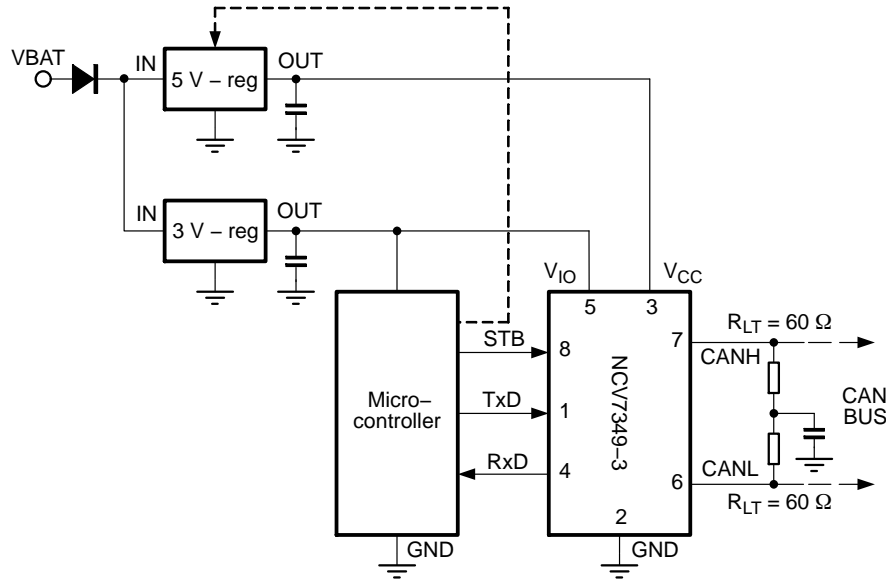

Figure 3. Application Diagram, NCV7349-3
**NCV7349-3:** Pin 5 is  $V_{IO}$  pin, which is supply pin for transceiver digital inputs/output (supplying pins TxD, RxD, STB). The  $V_{IO}$  pin should be connected to microcontroller supply pin. By using  $V_{IO}$  supply pin shared with microcontroller the I/O levels between microcontroller and transceiver are properly adjusted. This adjustment allows in applications with microcontroller supply down to 3 V to easy communicate with the transceiver. (See Figure 3)
The  $V_{IO}$  pin available only on NCV7349-3 version should be connected to microcontroller supply pin. By using  $V_{IO}$  supply pin shared with microcontroller the I/O levels between microcontroller and transceiver are properly adjusted. See Figure 3. Pin  $V_{IO}$  on NCV7349-3 does not provide the internal supply voltage for low-power differential receiver of the transceiver. Detection of wake-up request is not possible when there is no supply voltage on pin VCC.